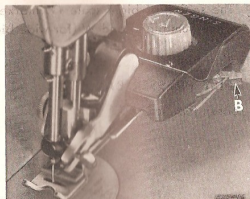

Fig. 10. To Adjust Zigzagger for Straight Stitching
Arrowhead Stitch Pattern 161003 produces a design which is ideal for ornamental purposes. The size of Arrowhead is determined by the bight setting and texture of material. Stitch setting should be short (approximately No. 30) for a solid effect. For any desired spacing between Arrowheads, pull lever B, Fig. 10, page 10 forward for straight stitching and count number of stitches for a given space. When desired spacing is attained, push lever B back for zigzag stitching. Arrowhead is most distinct when bight is set at W and stitch regulator at No. 30.
2. Pull lever B, Fig. 10 toward you. Plain sewing can then be done.